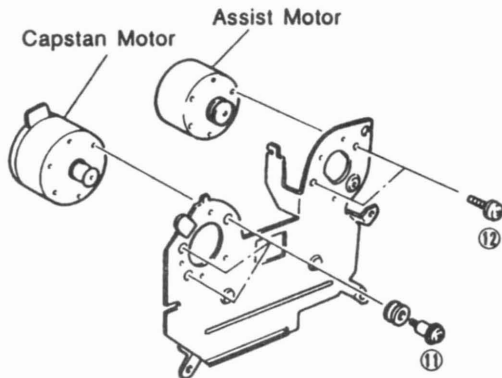

Fig.6
- c. Remove 3 screws (⑪) in Fig.6 and then remove the Capstan Motor.
- d. Remove 2 screws (⑫) in Fig. 6 and then remove the Assist Motor.